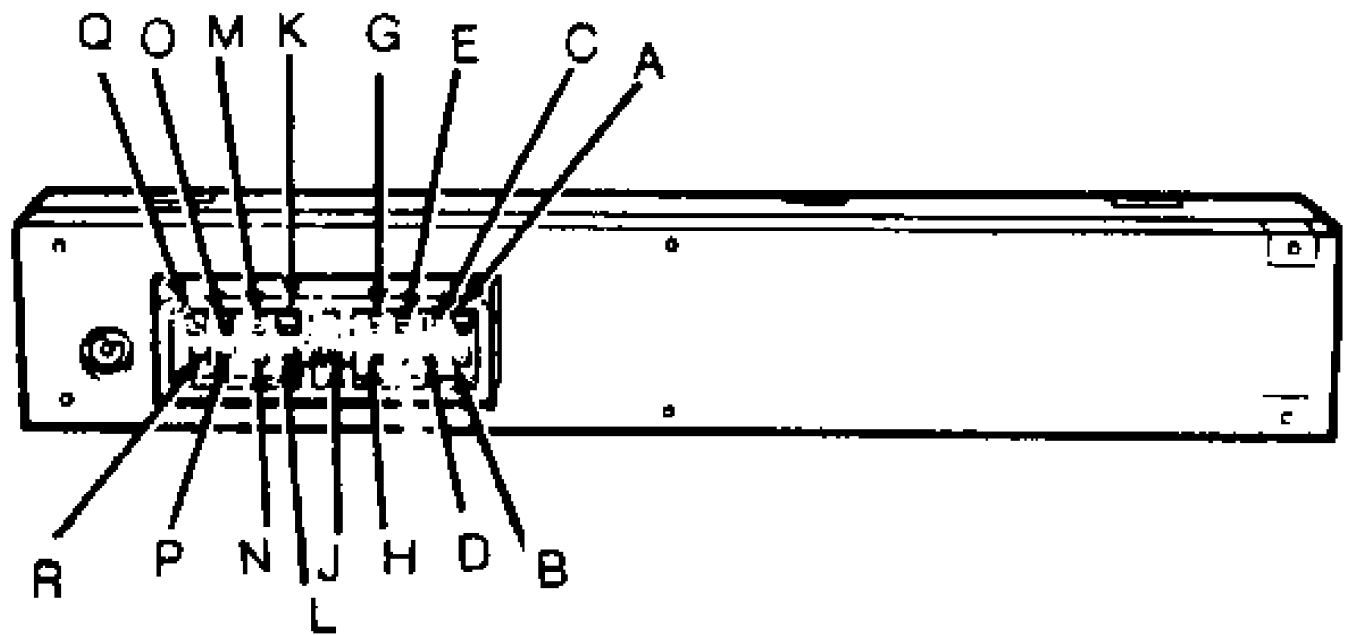

Fig. 9: Testing ANTI-LOCK Warning Light (RX7)
1) Start engine, and observe ANTI-LOCK light. Light should illuminate for a few seconds. If light does not illuminate as described, remove clock and bezel assembly from dashboard. Slide warning and clock unit from instrument panel. Connect terminal "E" to ground. See Fig. 9. ANTI-LOCK light should illuminate. If light does not illuminate, check bulb. If bulb is okay, check meter fuse and wiring harness.